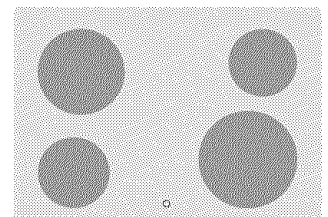

Figure 6 -Model C
2. Push in and turn the control knob counterclockwise (See Figure 2) for smaller cookware or clockwise (See Figure 6) for larger cookware.